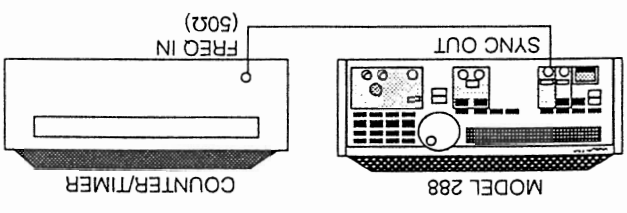

Figure 2-2. Frequency Measurement Setup
2. Connect the Model 288 and test equipment as shown in figure 2-2.